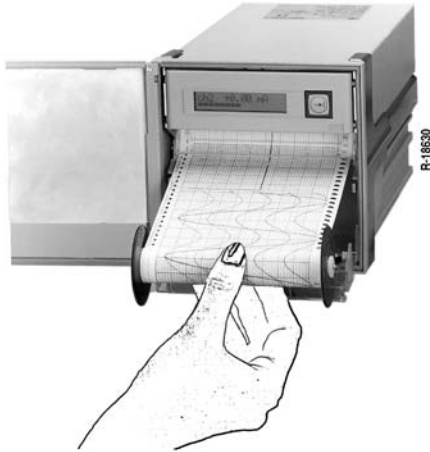

Figure 11 Removing the recording chart
2.1 Removing the recording chart (see Figure 11)